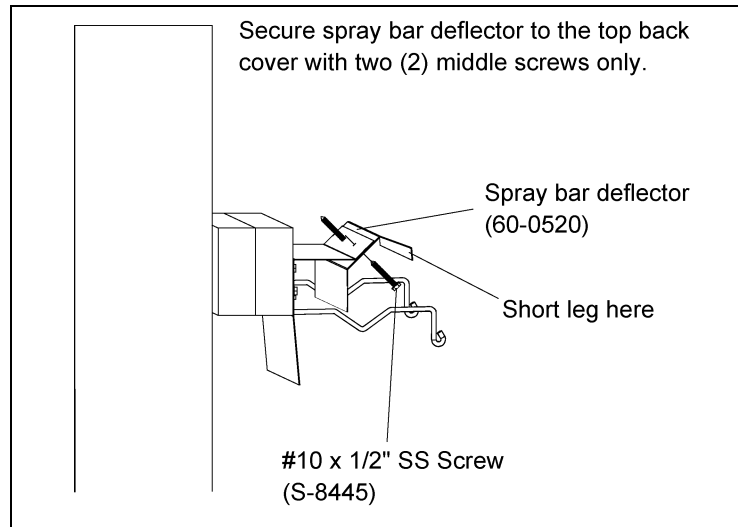

Figure 4M
Place spray bar deflector, with short leg to the front, onto the top back cover. Place two (2) #10 x 1/2" stainless steel self-drilling screws (S-8445) **in the two (2) middle screw holes only**. (See Figure 4M.)